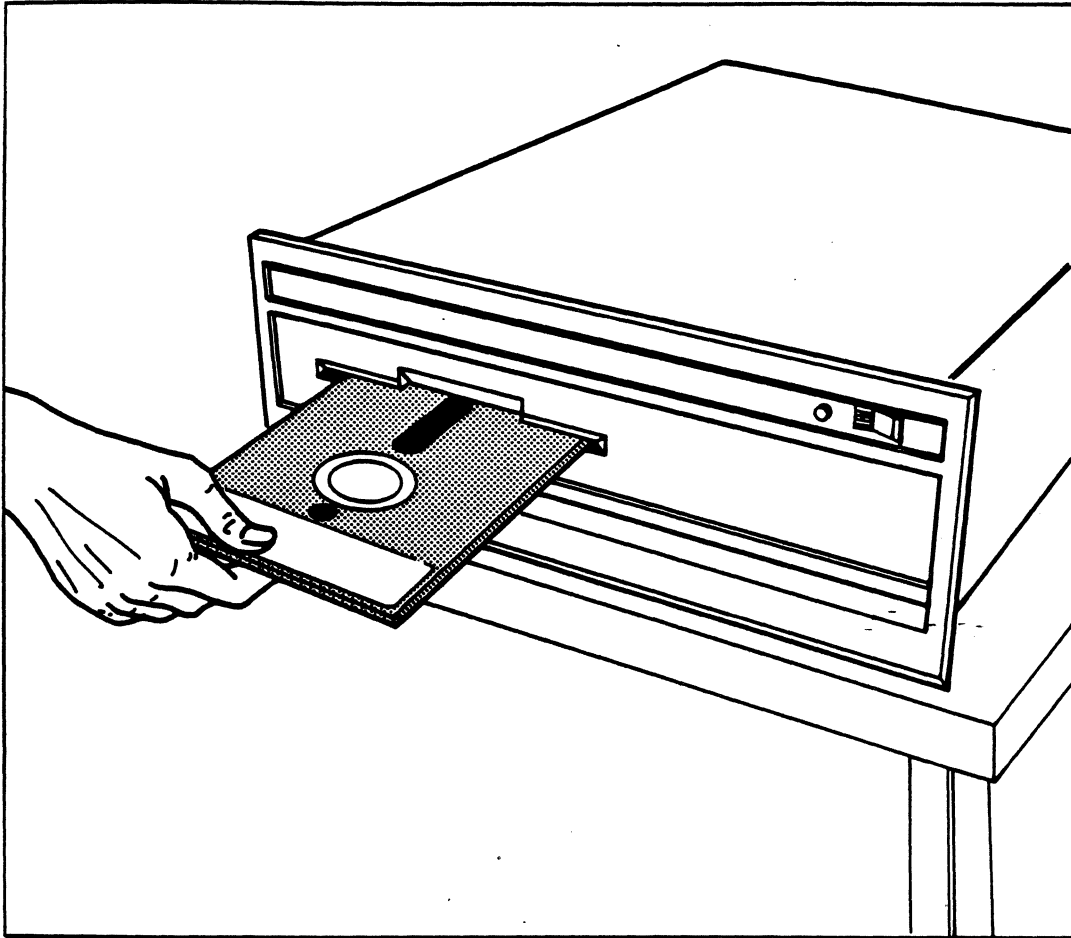

Figure ADX-1. Inserting a diskette into the floppy disk drive
- (2) Place the ADX diskette into the diskette (floppy disk) drive as shown in figure ADX-1. Close the drive door until you hear a metallic click, and press the Reset button. This will load the ADX program.
Step 1*** Insert the ADX diskette into the diskette drive as shown in figure ADX-1. Push the reset button to 'boot' the system up. One should expect to see the banner illustrated on page ADX-5. The user should now enter MEM86<CR>.